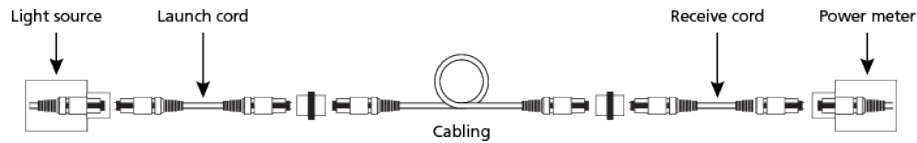

Figure 6. Measure attenuation of cabling
2. Attach the launch cord, power meter, and receive cord to the cabling under test (see Figure 6).